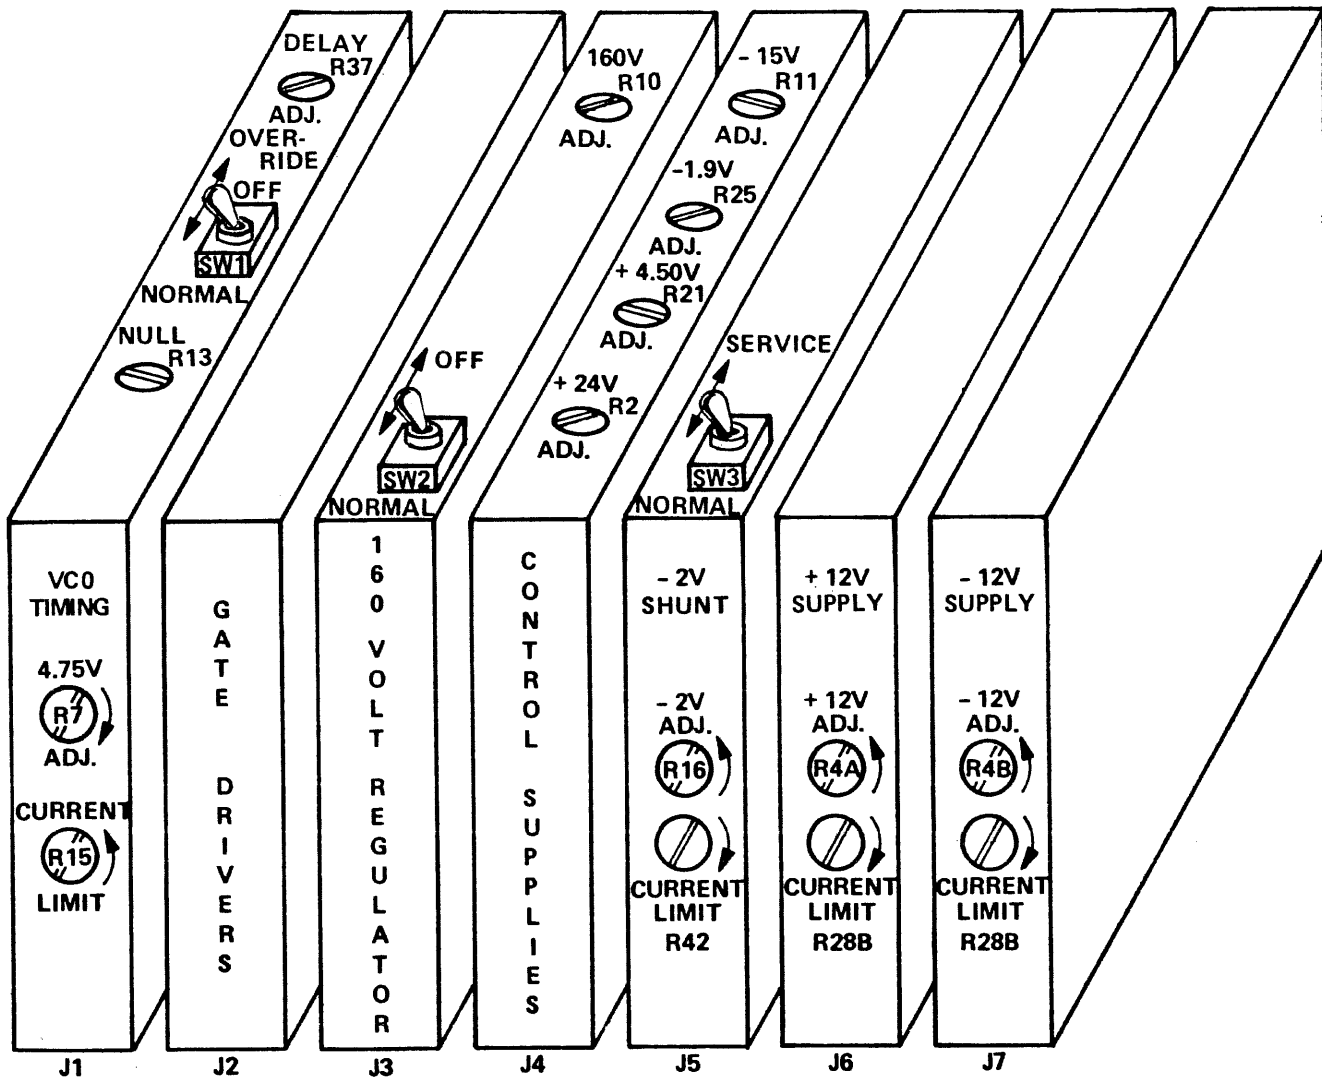
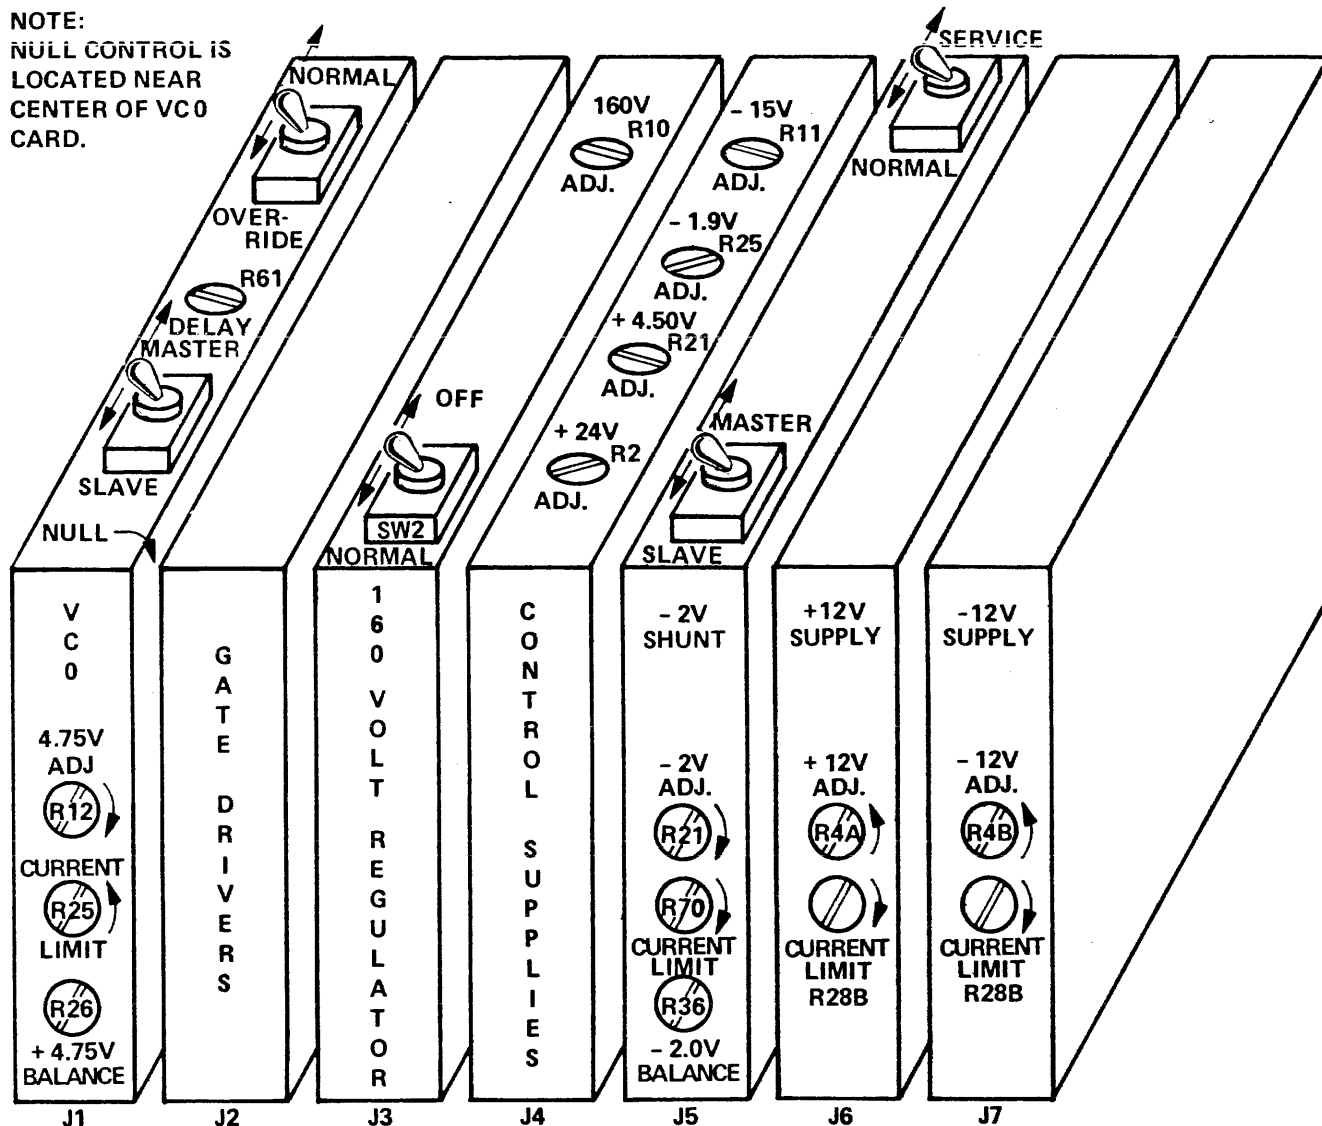

Figure 4-6. Logic Supply Card and Control Locations
Figure 4-7. Logic Supply Card and Control Locations
The following procedures are separated into sections which basically follow the main divisions of circuitry within the supply. Each procedure should be performed in the order listed. Refer to figure 4-6 (Logic Power Supply-1 and -3) or figure 4-7 (Logic Power Supply-4) as appropriate for the following procedures.
- a. Insert the 160 Volt Regulator Card into J3 (see figure 4-6).